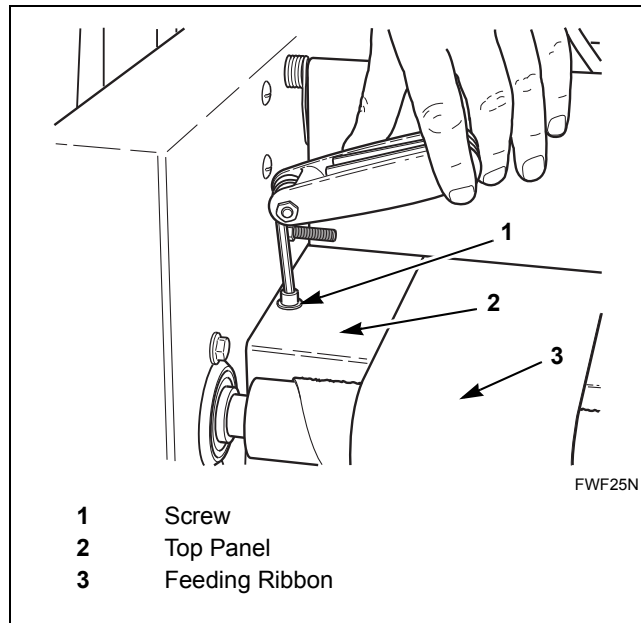

Figure 30
5. Remove screw from left side of top panel (behind feeding roller). Refer to *Figure 30*.